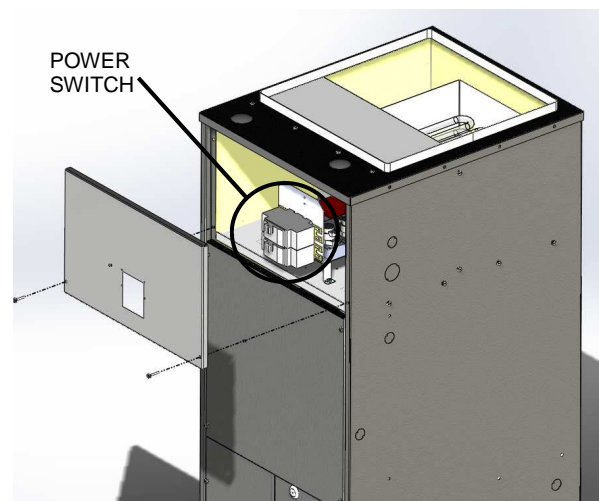

Figure 9
2. Unit With EH: into the unit through power entry (unit side) and then to the factory installed power switch inside the electrical section (see Figure 9). Note: power switch looks like a circuit breaker but **does not provide overload protection**. Power switch provided only with electric heater (field kit or factory installed). **NOTE:** When electric heat greater than 10kW is provided, two power supply circuits are required, as shown on the wiring diagram.